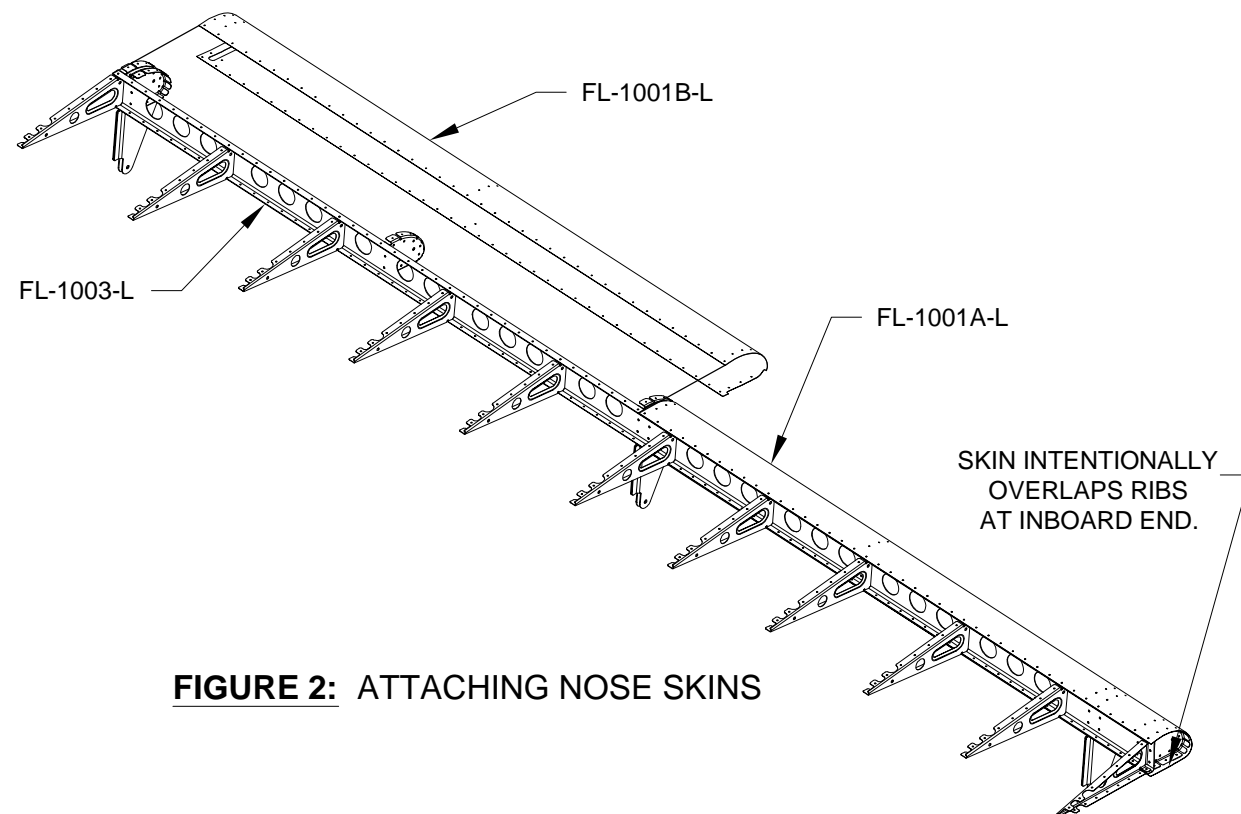

FIGURE 2: ATTACHING NOSE SKINS
Step 2: Put a slight bend in the trailing edges of the FL-1001A-L Inboard Nose Skin and FL-1001B-L Outboard Nose Skin so that they will lay down flat and tight on the FL-1001C Top Skin and FL-1002 Bottom Skin after riveting. Slide the inboard nose skin and the outboard nose skin over the FL-1007 Hinge Brackets and cleco the nose skins in place as shown in Figure 2. This makes the FL-1003-L Spar somewhat rigid. Use only a few clecos on the top; they will be removed in the next step.